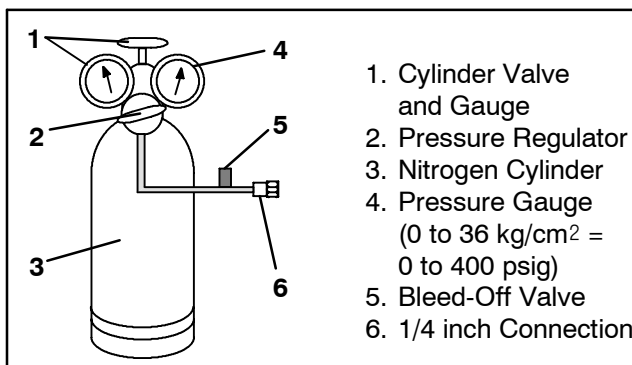

Figure 37. High Pressure Switch Testing
- c. Connect hose to a cylinder of dry nitrogen. (See Figure 37.)